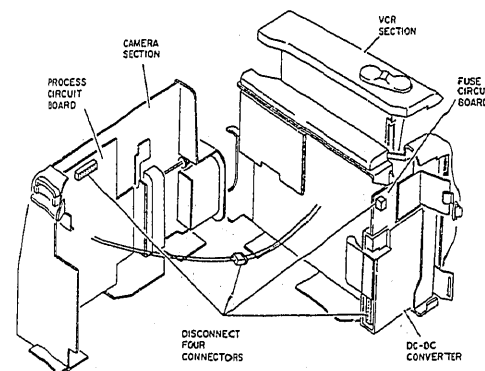

Fig. 2-5
- 2) Disconnect four (4) connectors (CN093, CN903, CN051, CN001) on the DC-DC converter, process circuit board, fuse circuit board. (See Fig. 2-5)